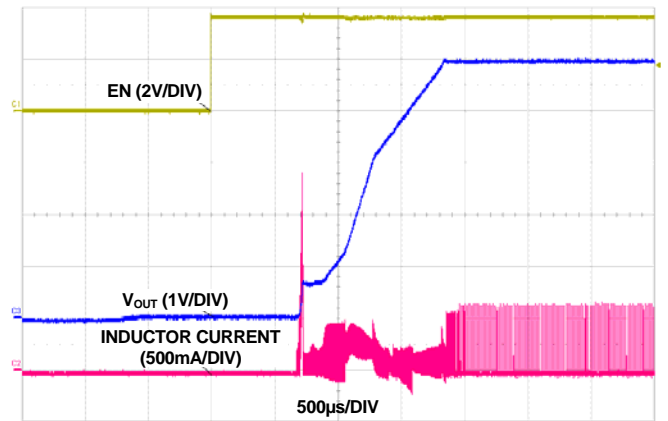

FIGURE 2. ISL91117 START-UP WITH $V_{IN} = 3.6V$ and $V_{OUT} = 5V$
Refer to the following Quick Setup Guide to configure and power up the board for proper operation. During the power on process, the expected waveforms are shown in Figures 2 and 3.
7. Monitor the output voltage start-up sequence on the scope. The waveforms will look similar to that shown in Figure 2.